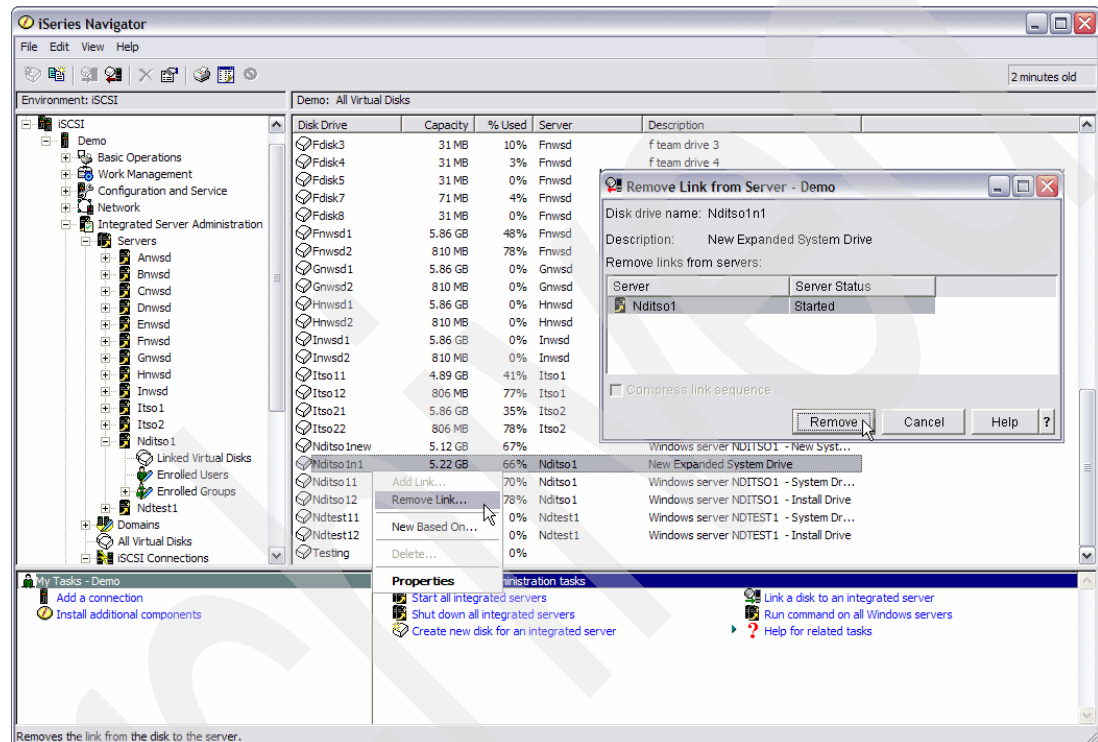

Figure 6-104 Remove Link in iSeries Navigator
3. A Remove Link from Server window opens (Figure 6-104), which shows which server it is linked to and if this server is started. Because this pertains to iSCSI, all drives are dynamically linked so this is no problem. Select **Remove** on this window.